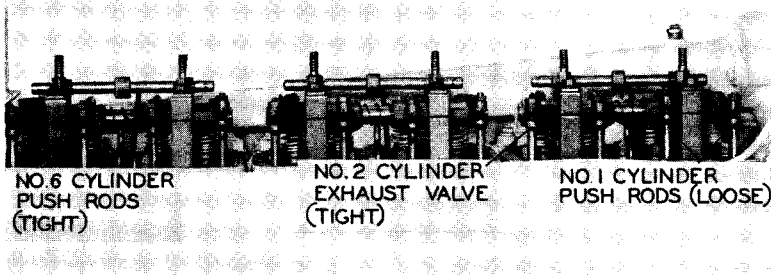

Figure 93. Checking Valve Push Rods
B. When Number 1 piston is at top dead center on the compression stroke, the push rods will be loose on Number 1 cylinder. The push rod for the exhaust valve on Number 2 cylinder will be tight. Refer to Figure 93. If the reverse is true, crank the engine one complete revolution.